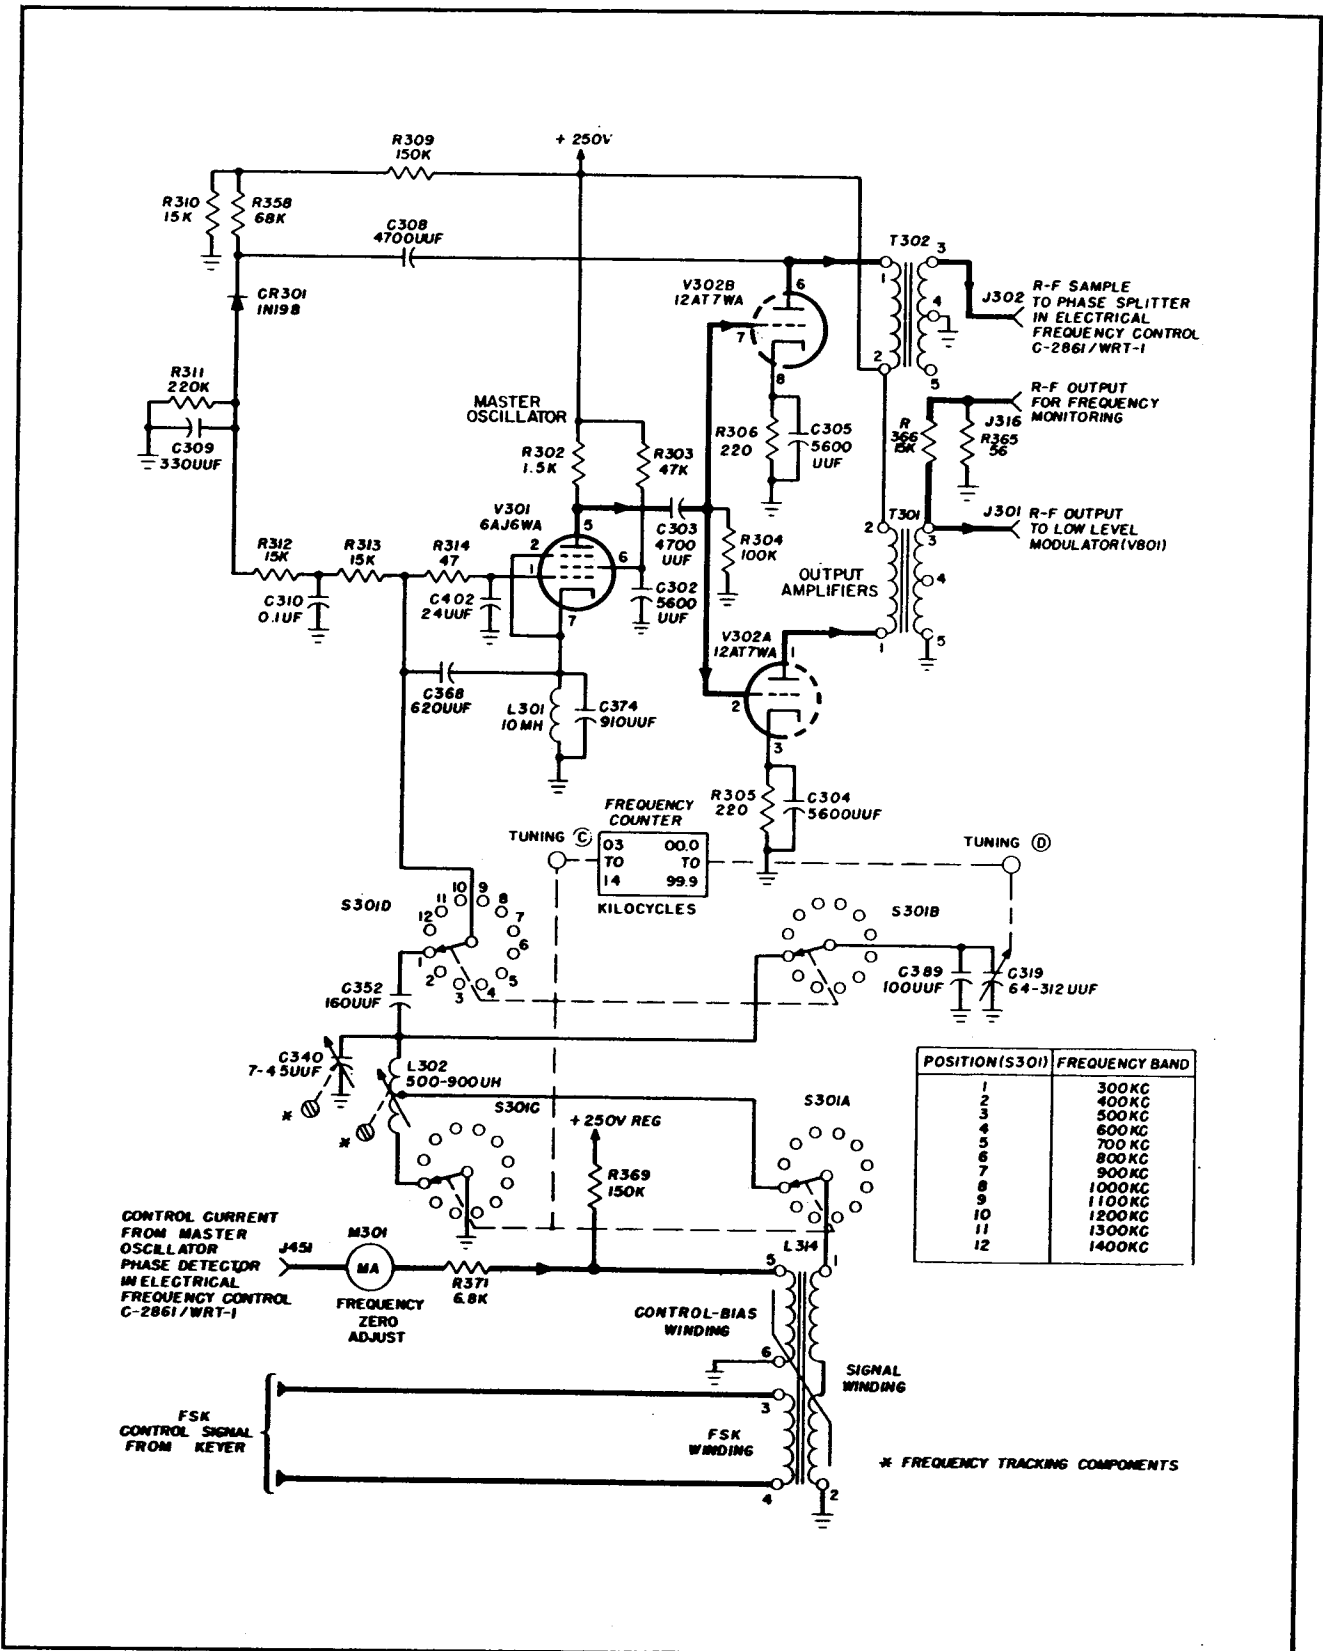

Figure 4-3. Master Oscillator, Simplified Schematic Diagram
(a) The circuits described below are located in an oven unit and on a subchassis contained in Radio Frequency Oscillator O-621/WRT-1. A simplified schematic diagram of the circuits is shown in figure 4-3. For further detail refer to the schematic diagram in figure 6-25.
(c) For simplicity, only the frequency-determining elements associated with position one of TUNING (C) bandswitch S301 are shown in figure 4-3. The position of S301 determines the band of operation of the master oscillator V301. The frequency-determining elements of band one are capacitors C340, C389, and C319, and coil L302 and the a-c or signal winding of saturable reactor L314. Master oscillator V301 is a Clapp oscillator, a modification of the Colpitts type. As shown in figure 4-3, inductor L301 provides a d-c ground for the cathode of V301. R-f voltage
(e) As shown in figure 4-3, the plate output of V302B is coupled through capacitor C308 to diode CR301. Normally the diode is reverse-biased by the negative voltage drop across resistor R310. However, when the negative-going plate output of V302B exceeds the bias level, CR301 conducts and a voltage negative with respect to ground is developed across resistor R311. The negative voltage is applied to the grid of the master oscillator through a filter network consisting of resistors R312 and R313, and capacitor C310. The level of bias voltage is directly related to the signal level at the plate of V302B. Thus the master oscillator always operates without drawing grid current, which improves the frequency stability and reduces the harmonic content of the output signal.
(f) As shown in figure 4-3, the signal winding of saturable reactor L314 shunts a portion of inductor L302. A variation in the inductance of the signal winding causes a variation in the output frequency of the master oscillator. If the master oscillator starts to drift in frequency, a d-c voltage of proper polarity and magnitude from the master oscillator phase detector in Electrical Frequency Control C-2861/WRT-1 is applied through FREQUENCY ZERO ADJUST meter M301 and resistor R371 to terminal 5 of the control bias winding of L314. The control signal causes the inductance of the signal winding to change and the master oscillator returns to the proper frequency. During FSK operation, an FSK control voltage from the keyer in